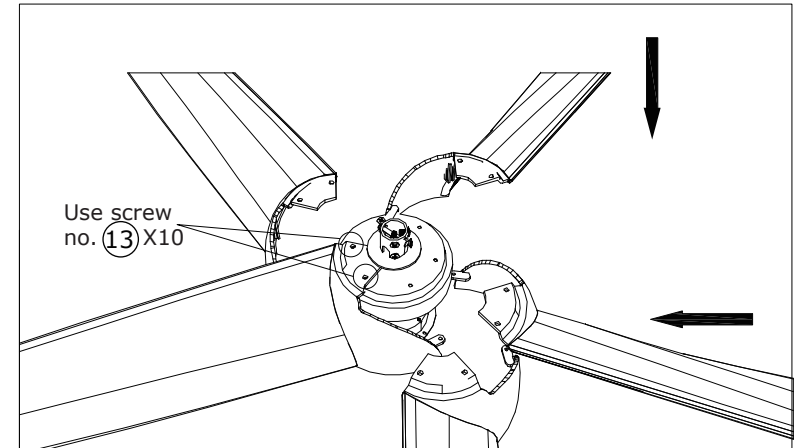

Figure 2
2. Install the fan blades to the motor in order and screw on the fan blade screws in turn. (Figure 2)